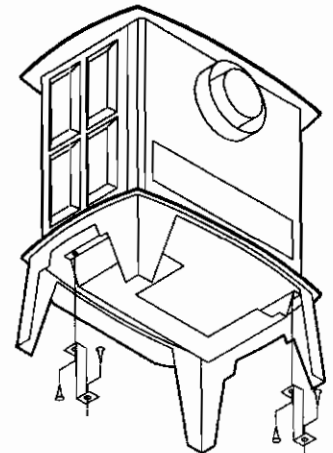

Figure 11
A. Locate the raised boss areas on the bottom of the stove (Figure 11.)